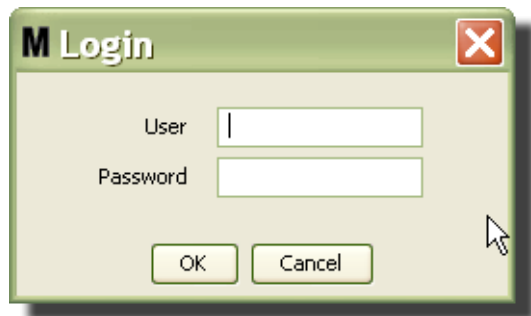

FIG. 198
3. The popup box shown in FIG. 198 appears for you to provide a User Name and Password.